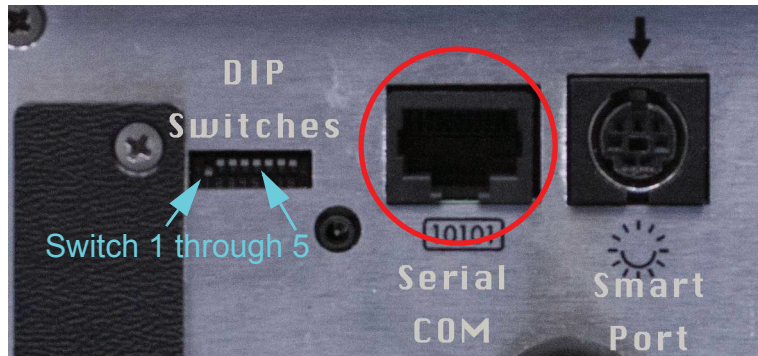

Figure 4-2 Serial COM Port
The **ApexRemote Serial** is equipped with the Serial COM Port shown in Figure 4-2 to communicate to an RS-485 network incorporating LMS equipment, such as the LMS 485 Gateway and Lighthouse System Control Cabinet. The instrument receives data and power through this port, simplifying cabling and eliminating the need for an external power supply.
2. Install the **ApexRemote** in a perpendicular position with its Inlet barb upward. Connect one end of a CAT5e cable to the Serial COM port on the instrument (shown in Figure 4-2).